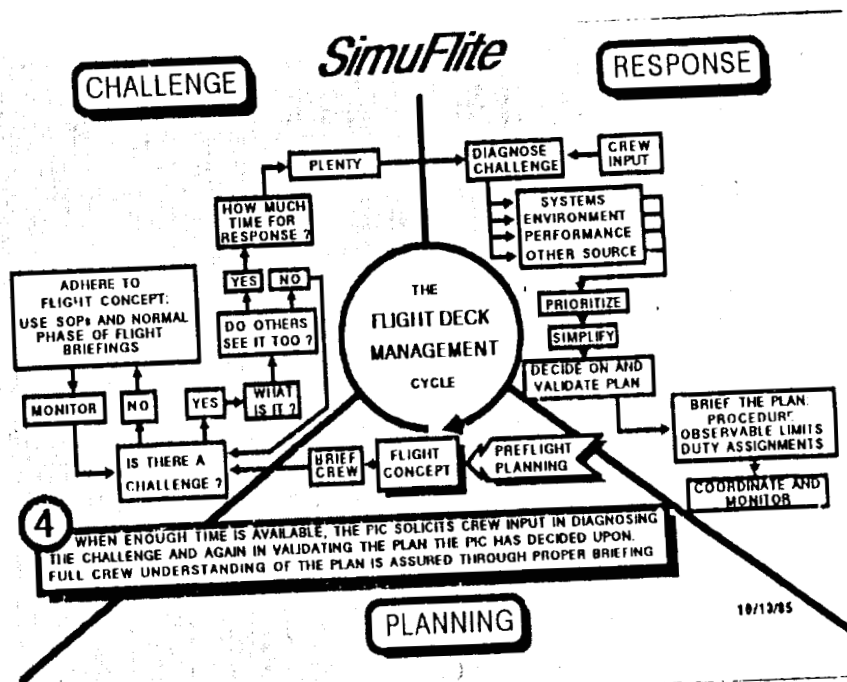

Figure 5
- o Time-critical situations allow little or no time for delay or trouble shooting. This type of situation requires knowledge of SOP and emergency procedure memory items in order to deal with them effectively. (Figure 5)